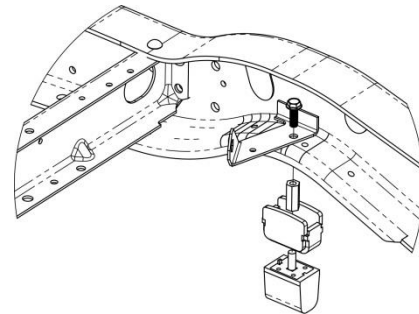

Figure 17. Jounce stop installation.
3. Slip the Spacer and Bumper assembly under the frame and reattach to the Driver Side frame and brake bracket using the M10-1.5 x 50mm Hex Flange Bolt. Torque to **25-30 ft-lbs.** See Figure 17.
4. Locate (1) Bump Stop Spacer, (1) M10 Coupler, and (1) M10-1.5 x 50mm Hex Flange Bolt.
- Locate (1) Upper Control Arm Assembly and (1) Left Hand (Driver Side) Lower Control Arm Assembly. See Figure 17 for lower control arm identification.